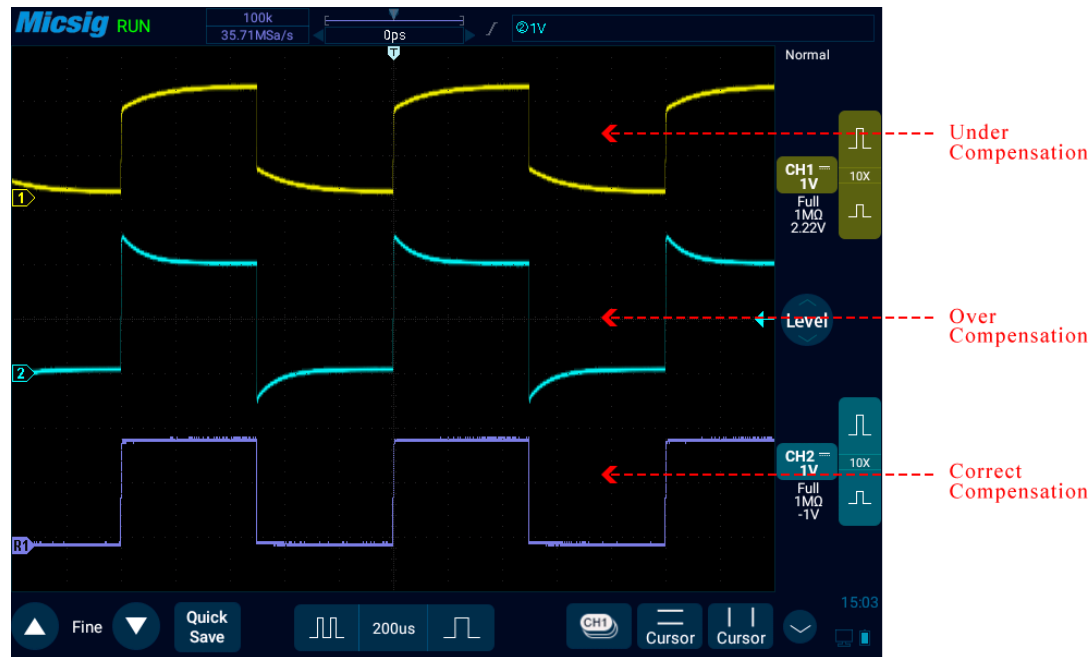

Figure 2-14 Probe Compensation
- 5) Tap **Auto** button or manually adjust the waveform vertical sensitivity and horizontal time base. Observe the shape of the waveform, see Figure 2-14.